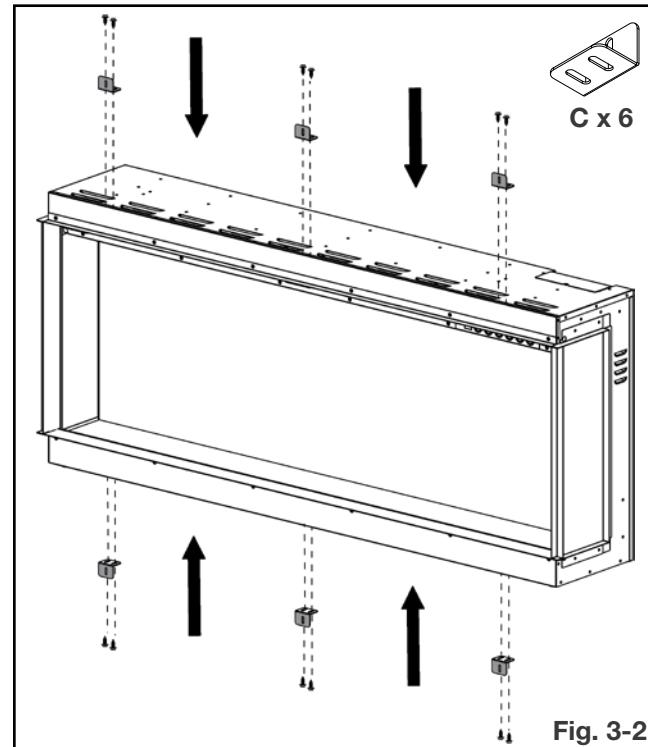

Fig. 3-2
2. Install the 6 metal brackets (supplied) using the 12 screws and washers previously removed (**Fig. 3-2**).